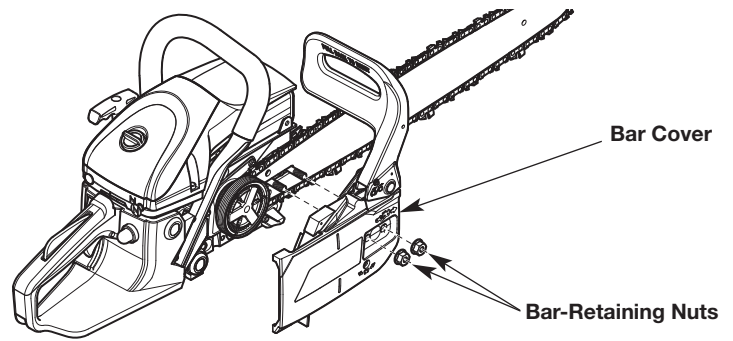

Fig. 29
2. Use the multi-purpose tool or a 1/2 inch (13 mm) wrench to loosen the bar-retaining nuts (Fig. 29).
3. Remove the bar-retaining nuts and bar cover (Fig. 29).